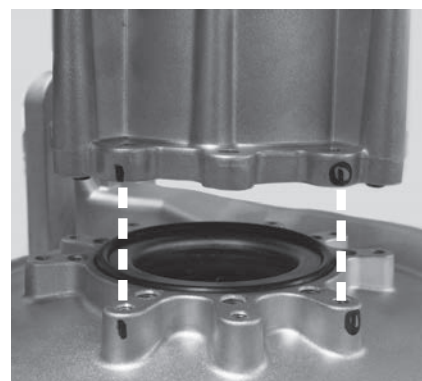

Figure 92 - Proper fan and venturi alignment
- 16** Install the new fan to the venturi. Reference the orientation mark on the old fan to position the new fan properly as shown in Figure 92. Use the screw hole marks on the venturi to properly install the four (4) screws previously removed in **Step 14**.